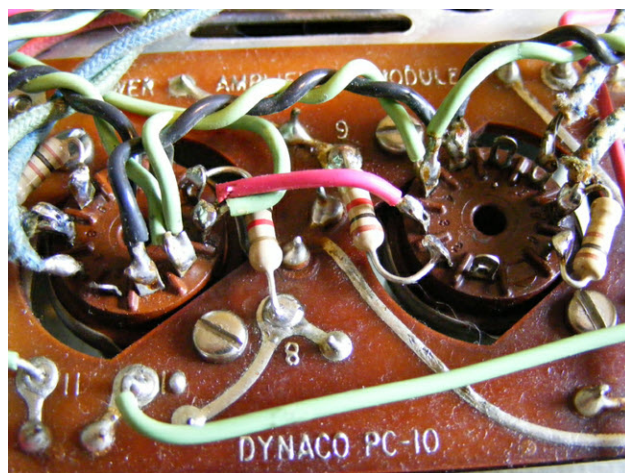

Figure-7. 1000 ohm grid resistors and 100 ohm screen resistors are installed at the output tube sockets.
3. With the conversion to fixed bias, control grid swamper resistors and screen stability resistors are now required. These are shown on the schematic of the complete modification, and can be added quite easily at each output tube socket as shown in Figure-7. The 1000 ohm control grid resistors are simply installed in place of the wire that originally connected pin #2 of each output tube to the appropriate eyelet on the circuit board, while the 100 ohm screen stability resistors are mounted directly to the output tube sockets themselves.